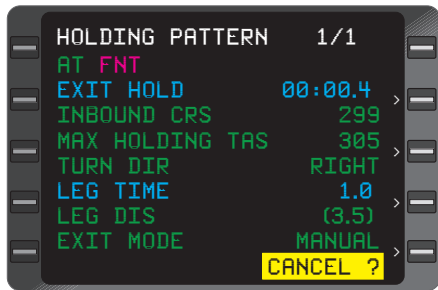

Figure 3-116
2. **ENT** Key - DEPRESS to display **HOLDING PATTERN** Page with cursor over **CANCEL?**. (Figure 3-116)